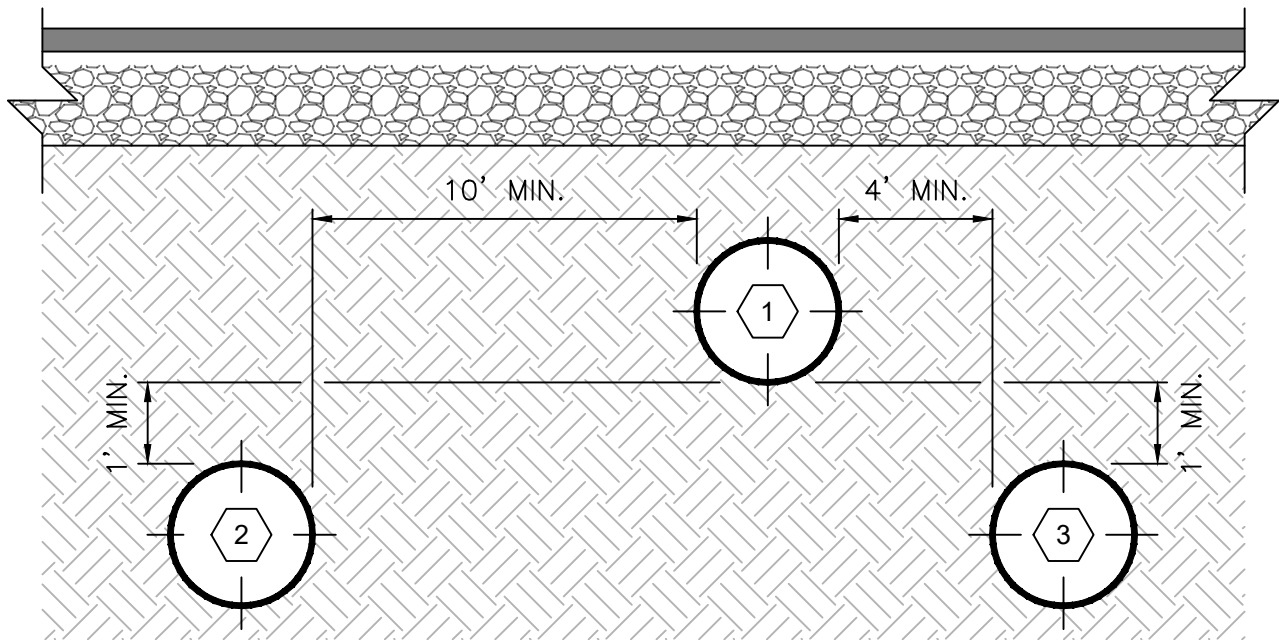

FIGURE 1 - MINIMUM SEPARATION STANDARDS FOR PARALLEL CONSTRUCTION OF NEW WATER PIPES
2. IF THE MINIMUM SEPARATION BETWEEN WATER PIPES AND SEWER/STORM DRAIN LINES AS OUTLINED IN FIGURE 1 AND 2 ON CWD-015-1 CANNOT BE MET, RIVERSIDE PUBLIC UTILITIES (RPU) MUST DEMONSTRATE TO THE DEPARTMENT OF DRINKING WATER (DDW) THAT A PROPOSED ALTERNATIVE WOULD PROVIDE AT LEAST THE SAME LEVEL OF PROTECTION TO THE PUBLIC HEALTH.
6. THE VERTICAL SEPARATION REQUIREMENT SHOWN IN FIGURE 1 ONLY APPLIES WHEN THE HORIZONTAL DISTANCE BETWEEN A WATER PIPE AND SEWER OR STORM DRAIN LINE IS LESS THAN 10 FEET.